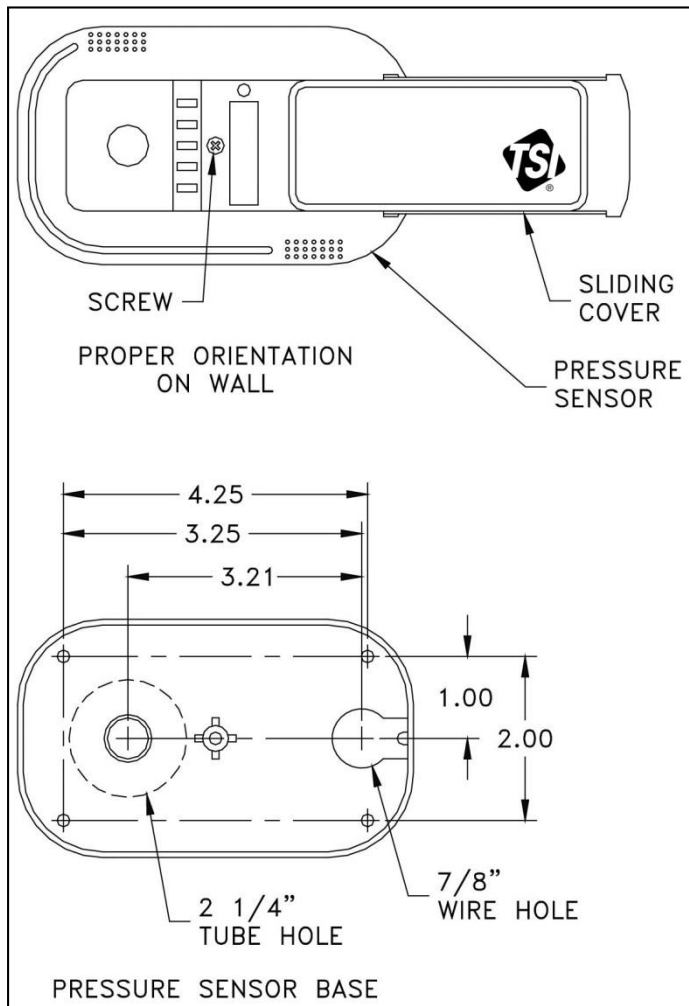

Figure 2: Pressure Sensor Orientation and Mounting Template
WARNING: 801912 pressure sensor must be mounted through the wall between the controlled space (isolation room) and referenced space (hallway), exactly as shown in Figure 2 and 3.
- The pressure sensor must be orientated on the wall as shown in Figure 2. Looking at the mounted sensor, sensor hole is on the left (2 1/4") and wire hole is on the right.
- Drill a 7/8" hole on the side of the wall that the pressure sensor will be mounted. This hole is for the six-conductor sensor cable. Refer to Figure 2 for a hole mounting pattern.
- Slide sensor cover to right and remove screw that holds the sensor base to the pressure sensor (Figure 2). Remove pressure sensor and store in a safe place.